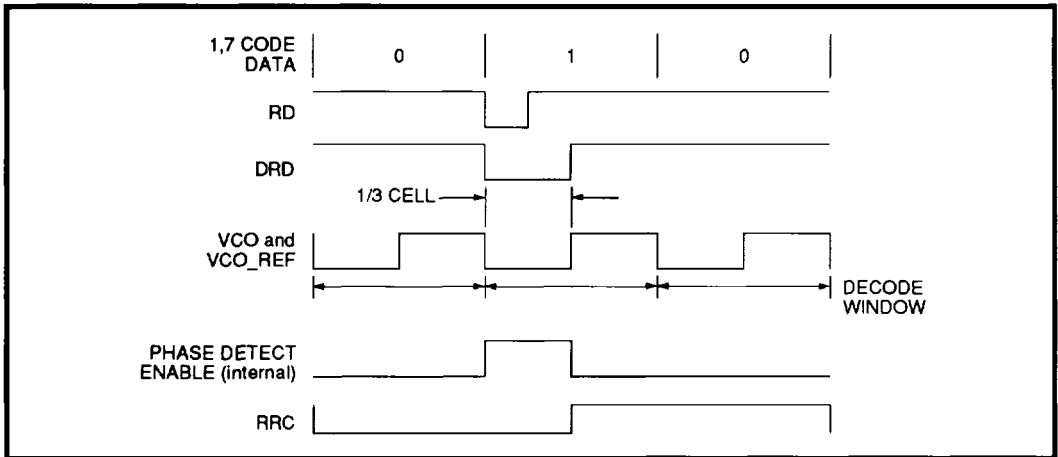

FIGURE 12: Data Synchronization Waveform
The data synchronizer utilizes a fully integrated fast acquisition PLL to accurately develop the decode window. Read gate (RG) initiates the PLL locking sequence and selects the PLL reference input; a high level (read mode) selects the internal RD input and a low level selects the reference clock. In the read mode the falling edge of $\overline{\text{DRD}}$ enables the phase detector while the rising edge is phase compared to the rising edge of the VCO reference (VCOREF.) As depicted in Figure 12, $\overline{\text{DRD}}$ is a 1/3 NRZ bit cell wide pulse whose leading edge is defined by the falling edge of $\overline{\text{RD}}$. A decode window is developed from the VCOREF clock.